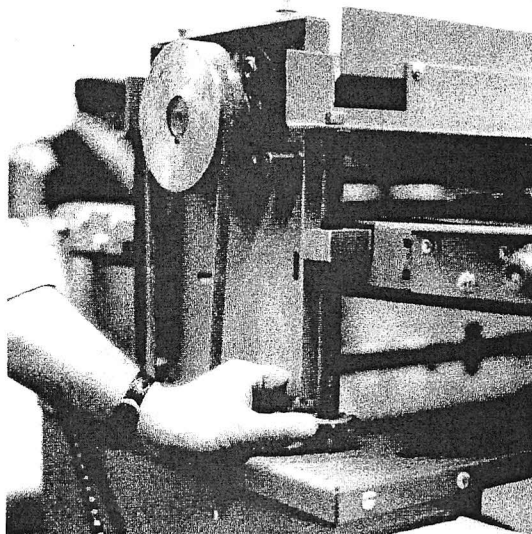

Fig. B-4
6. Remove the chain connector link (master link) and remove the chain from the corner screw sprockets (see fig B-4).